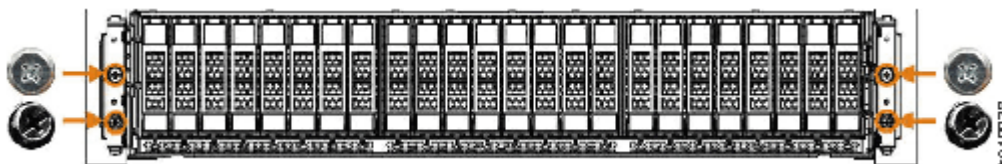

Figure 71. Four screws at the front of the enclosure
6. Unscrew the four M5 screws that secure the left and right end caps of the control enclosure to the rack, as shown in Figure 71 on page 114.